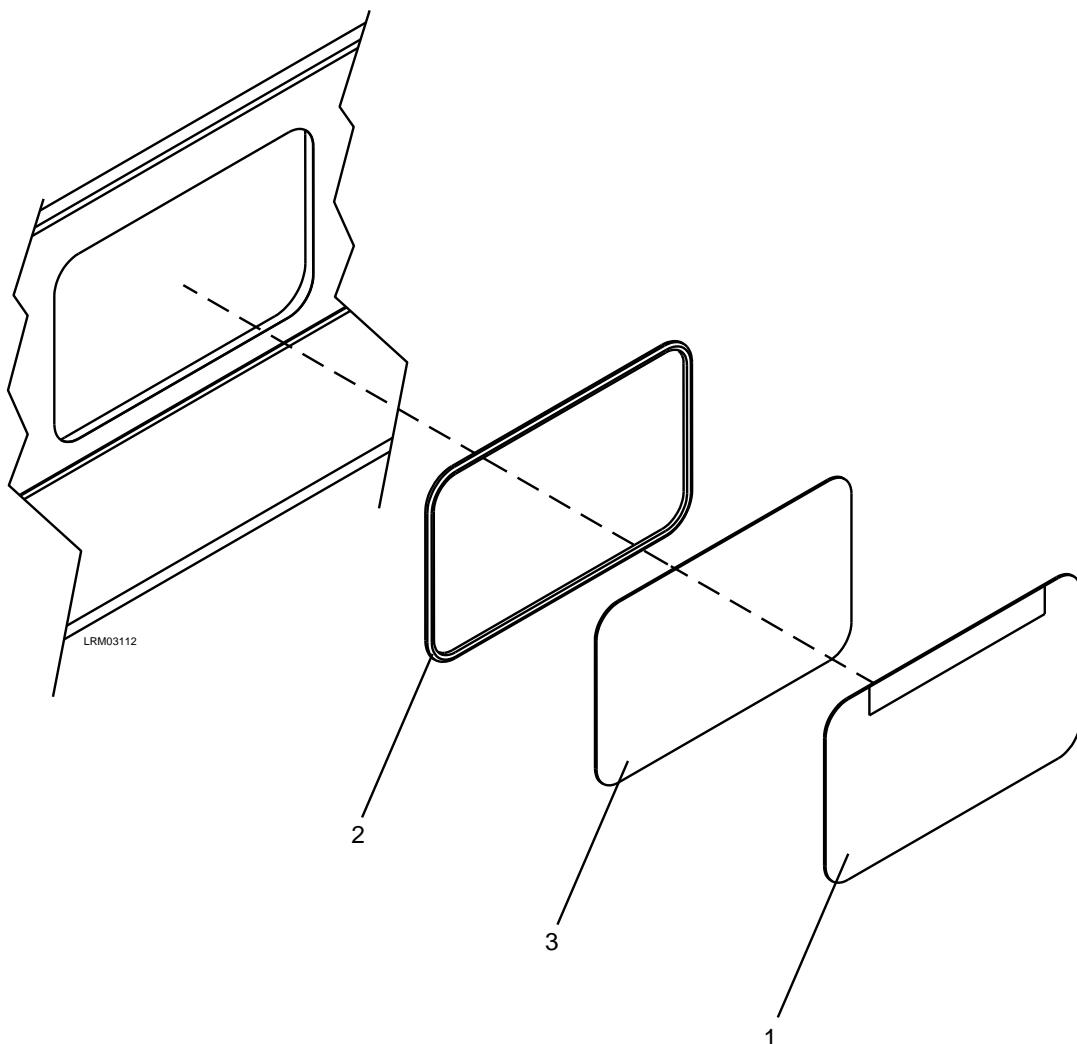

Figure 7-75: Gasket Mounted Windows
1. Ensure that the Window (1) will not move when disengaged from the gasket (2). See Figure 7-75.
2. Remove the filler key (3) from the exterior of the gasket (2).
3. Remove the Window (1) from the gasket (2) using the appropriate lifting device.
4. Remove the gasket (2) from the car body.